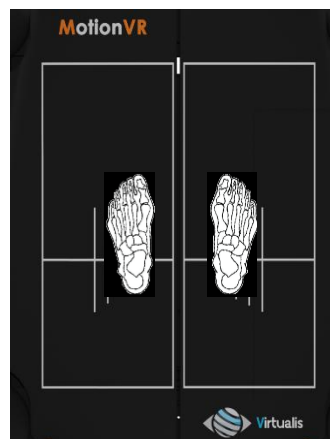

Figure 5. Proper foot placement
2. Center the patients' feet on the force plate. The medial malleolus of each foot should be centered directly over the center horizontal (wide) line on the force plate and the lateral calcanei are aligned with the small (**S**), medium (**M**), or large lines (**L**). (Figure 5)